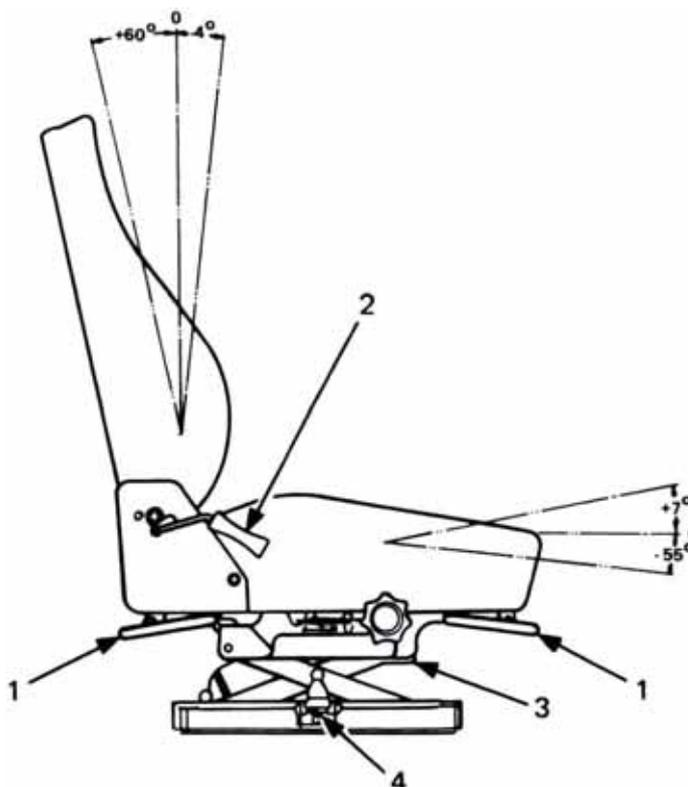

Figure 143 Seating Adjustment Positions
- a. Seat cushion height and tilt (Figure 143, Item 1)
- (1) Height range..... 65 mm in six steps
- (2) Forward tilt..... 11 degrees
- (3) Rearward tilt..... 13 degrees
- b. Seat back angle (Figure 143, Item 2)
- (1) Forward tilt..... 4 degrees
- (2) Rearward tilt..... 60 degrees
- (3) Adjustment..... 32 steps at 2 degrees increments
- c. Suspension unit (Figure 143, Item 3)
- (1) Load range..... 60 kg to 130 kg
- (2) Load adjustment..... Infinitely variable with visual indicator
- (3) Stroke ..... 80 mm, hydraulic shock absorber and progressive bump stops
- d. Seat slides (Figure 143, Item 4)
- (1) Total movement ..... 175 mm
- (2) Adjustment ..... 11 steps at 17.3 mm increments